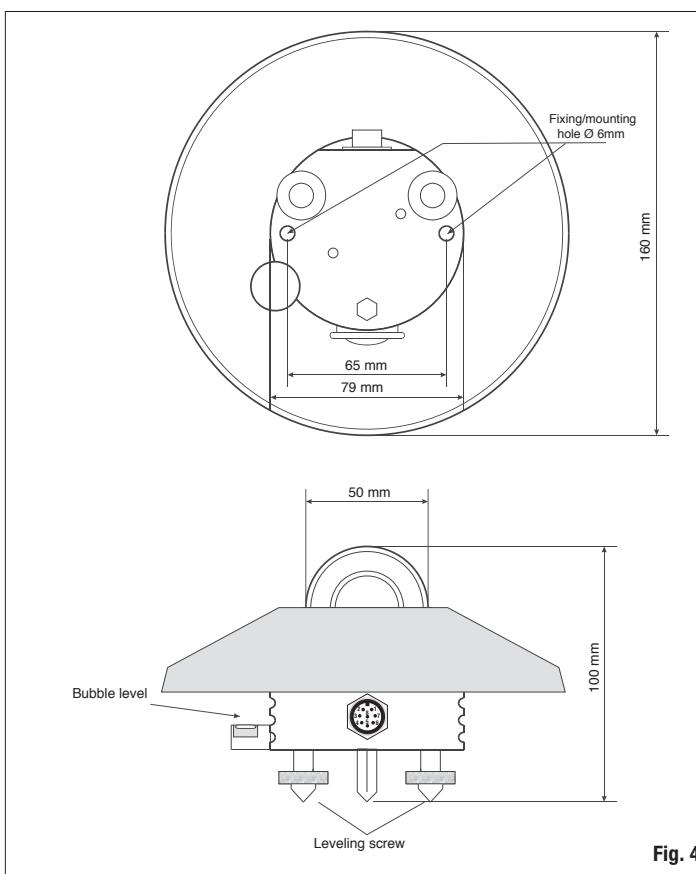

Fig. 4
- The LP UVB 02 radiometer is provided with a spirit level for carrying an accurate horizontal leveling. The adjustment is made by means of two leveling screws that allow to adjust the radiometer inclination. Use the two 6mm-diameter and 65mm-interaxial-distance holes to mount the instrument on a plane. Remove the shade disk to access the holes and reposition it after mounting (see Fig. 4).
Dimensions:  $\text{Fig. 4}$